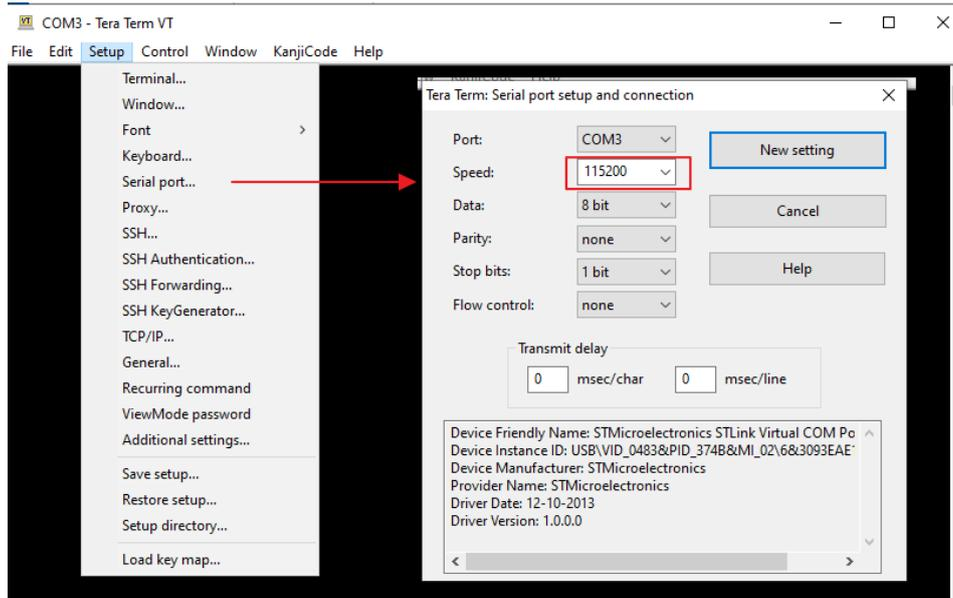

Figure 11: Set the baud rate
- Step3:** Go to Setup>Serial port, change the Speed to 115200 and click on new setting as showed in figure 11.